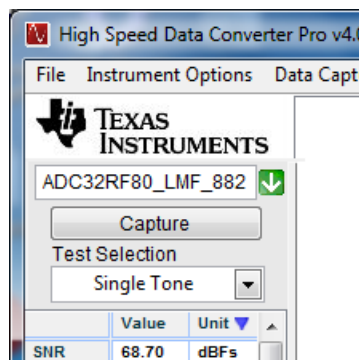

Figure 13. HSDC Pro Device Selection LMFS8821 Mode
4. Use the *Select ADC* drop-down menu at the top left corner to select *ADC32RF80_LMF_8821* as Figure 13 shows.